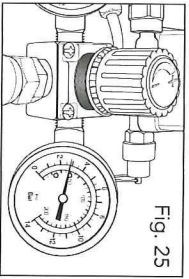

Fig. 25
5. The regulated pressure level is displayed on the adjustable pressure gauge (6) (Fig. 25).